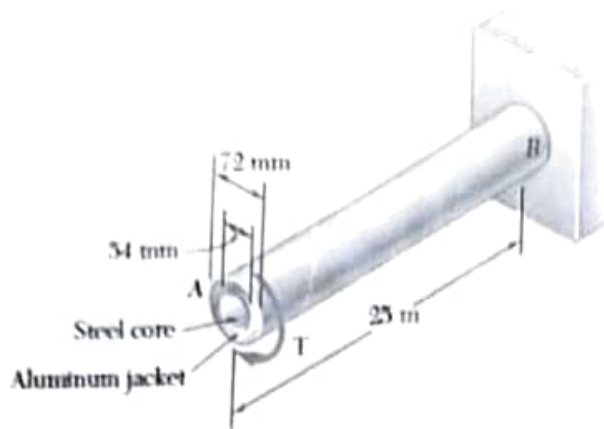

Figure 3
3. A torque of magnitude $T = 4 \text{ kN-m}$ is applied at end A of the composite shaft shown in Figure 3. Knowing that the modulus of rigidity is 77 GPa for the steel and 27 GPa for the aluminum, determine (a) the maximum shearing stress in the steel core, (b) the maximum shearing stress in the aluminum jacket, and (c) the angle of twist at A . [12]